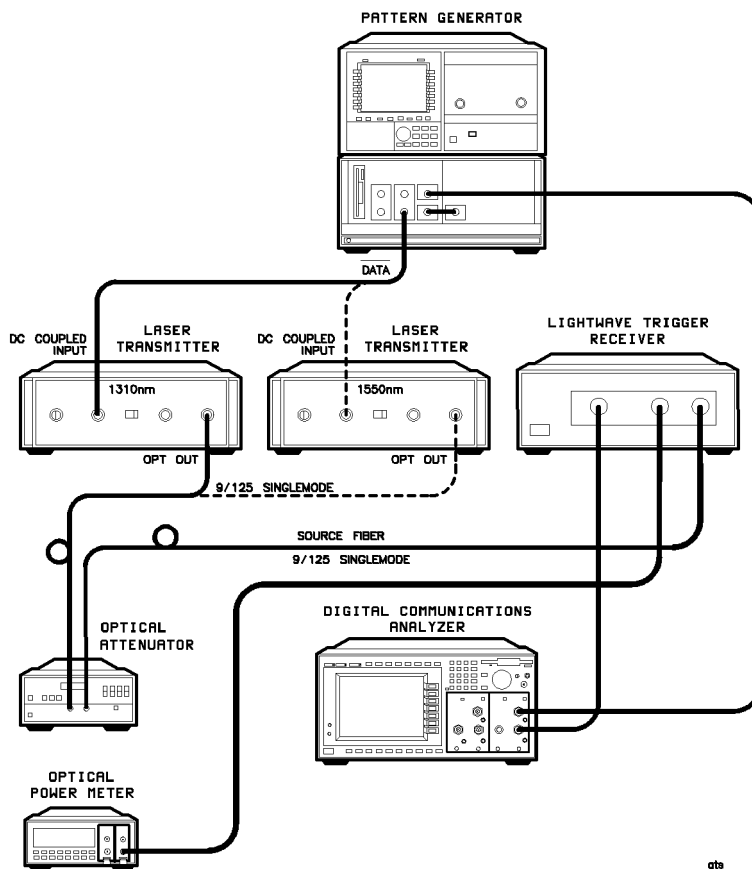

Figure 4-4. General test setup.
8. Connect the equipment as shown in Figure 4-4.
20. Configure the test equipment as shown in Figure 4-4.
Connect the cables as shown in Figure 4-4.